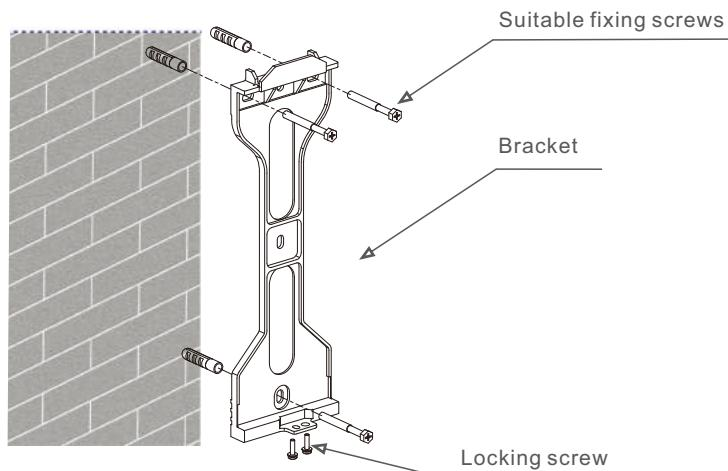
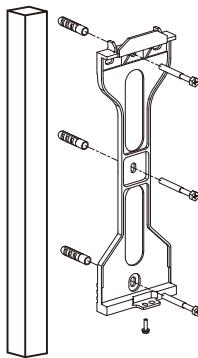

Figure 4.4 Inverter Wall Mounting
Figure 4.5 Inverter Pillar Mounting
Please see Figure 4.4 and Figure 4.5 for instruction on mounting the inverter to a wall.
2. Ensure the bracket is horizontal and the mounting holes (in Figure 4.4 and Figure 4.5) are marked correctly. Drill the holes into the wall or pillar at your marks.